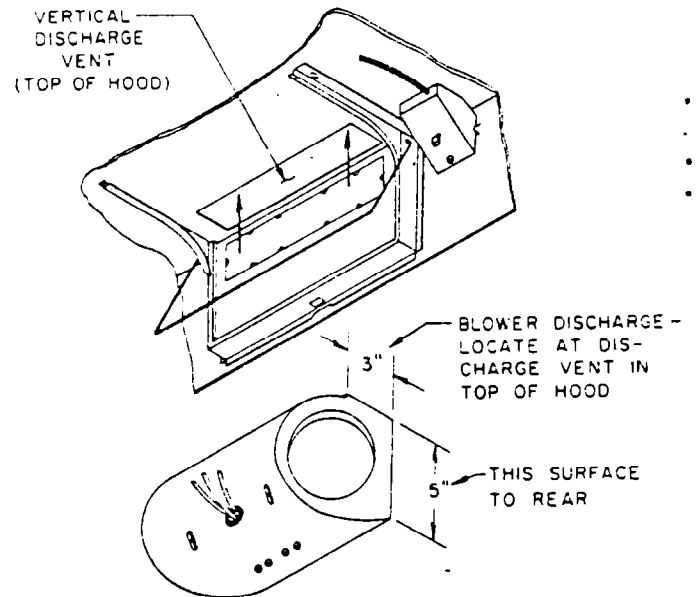

FIGURE 1
1. Figure 1 shows the proper Blower Assembly orientation for vertical discharge.
2. From the Blower position shown in Figure 1, lift the Blower Assembly vertically into mounting position.